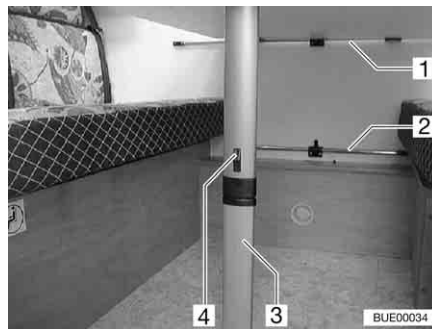

Fig. 62 Suspension table with folding leg
- Move the locking device (Fig. 62,4) toward the table-top.
- Fold the lower section of the foot (Fig. 62,3) under by 90°.
- Detach the suspension table from the upper attachment rail (Fig. 62,1).
- Attach the suspension table to the lower attachment rail (Fig. 62,2) and rest it onto the table leg hinge.